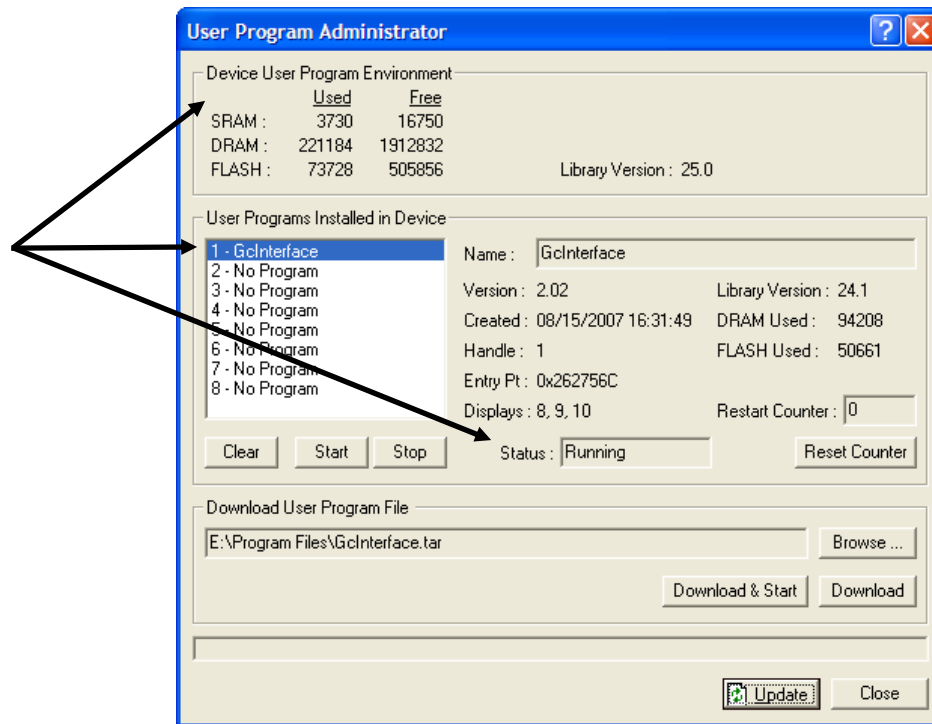

Figure 10. User Program Administrator
10. Click **OK**. The User Program Administrator screen displays (see *Figure 10*). Note that: